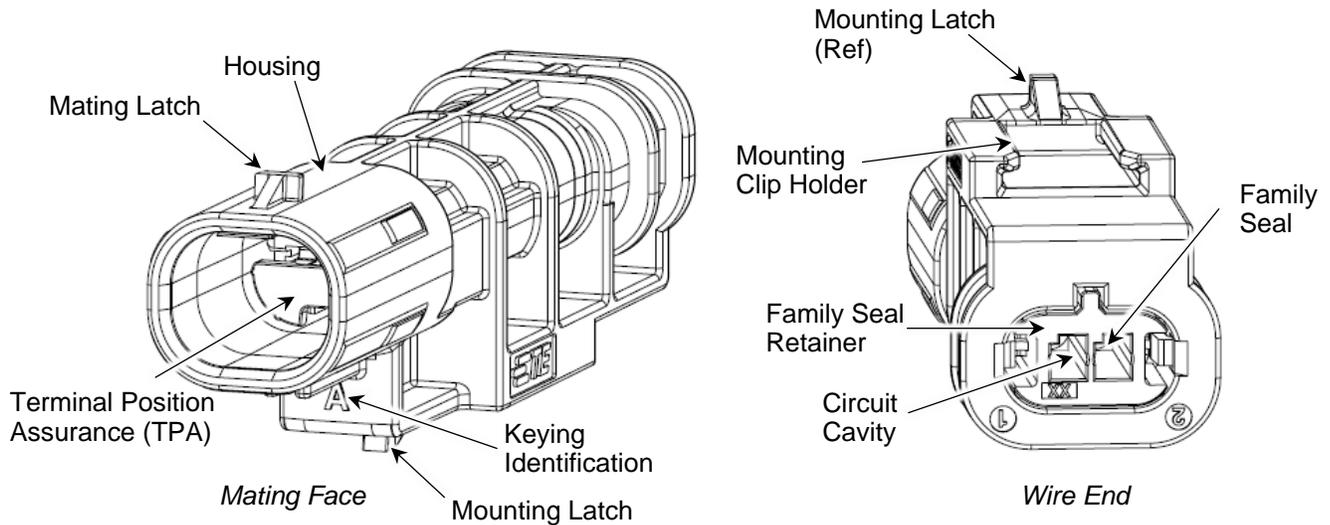

Figure 1
This instruction sheet provides assembly (terminal insertion, mounting, and connector mating) and disassembly (connector unmating, dismounting, and terminal extraction) procedures for 1.2-mm MCON sealed cap (male) connectors. 2292937-[ ], shown in Figure 1. These connectors accept 1.2-mm MCON clean body (CB) tab terminals, mate with 1.2-mm MCON sealed plug (female) connectors, and accept various types of mounting clips.
## 2. DESCRIPTION (See Figure 1)